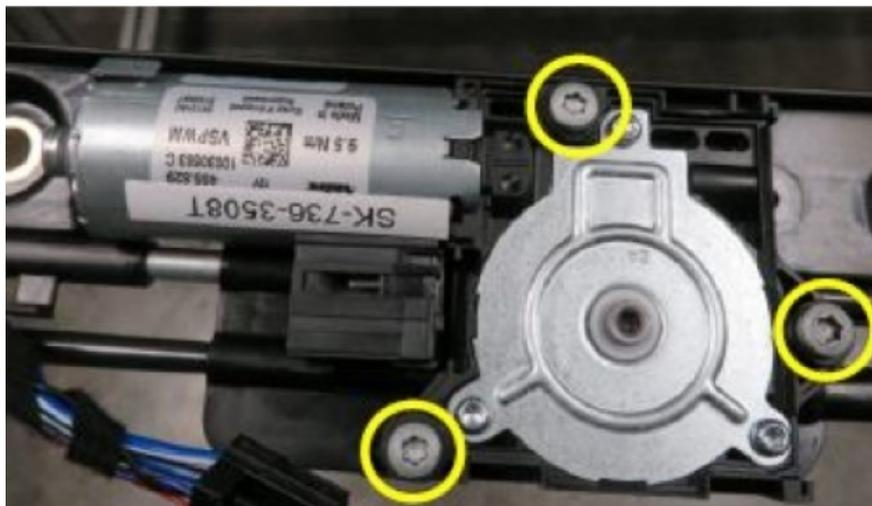

Figure 13 Electric drive motor securing screws
8. Locate and carefully detach the sliding electric drive unit from the drive assembly by removing the three securing screws circled in figure 13.